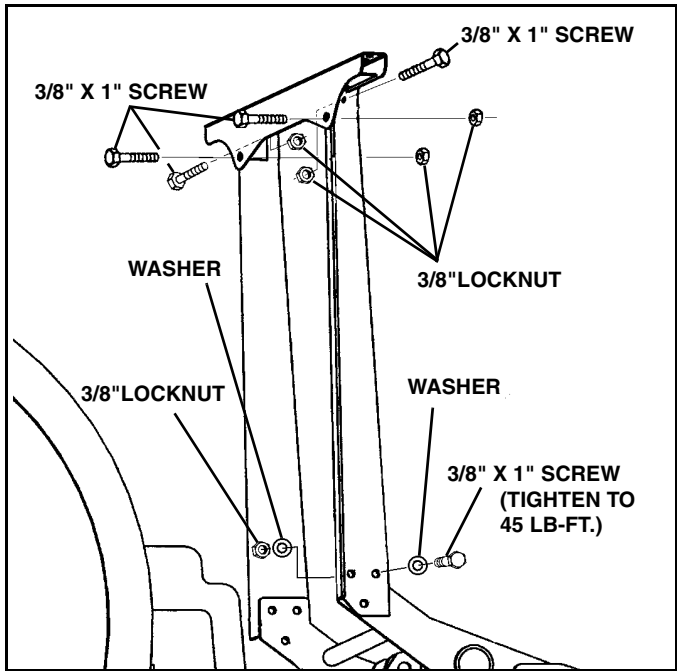

Figure 1-19
39. Remove left and right light support from light bar package. Secure each light bar support to lift/light bar with (3) 3/8" x 1" screws, washers and lock nuts from the light bar parts bag part number 96106089. Do not tighten at this time. (See Figure 1-19).
40. Secure light bar to supports with (4) 3/8" x 1" screws and lock nuts. Align light bar supports to vertical position and tighten all light bar hardware. Tighten six lower screws to 45 lb-ft. (See Figure 1-19).